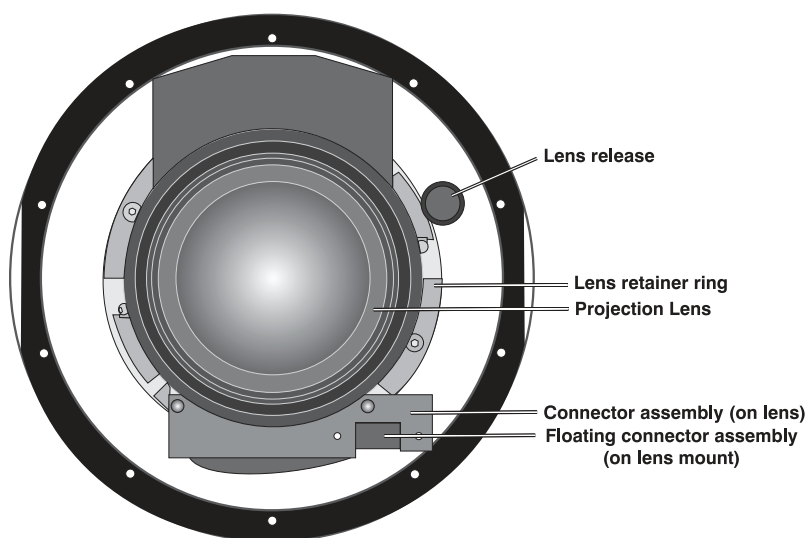

Figure 3-6. Lens Assembly (Front View)
4. Slide the new lens into the lens opening of the projector. Make sure to align the connector on the side of the lens with the connector assembly on the lens retaining ring; see Figure 3-6.